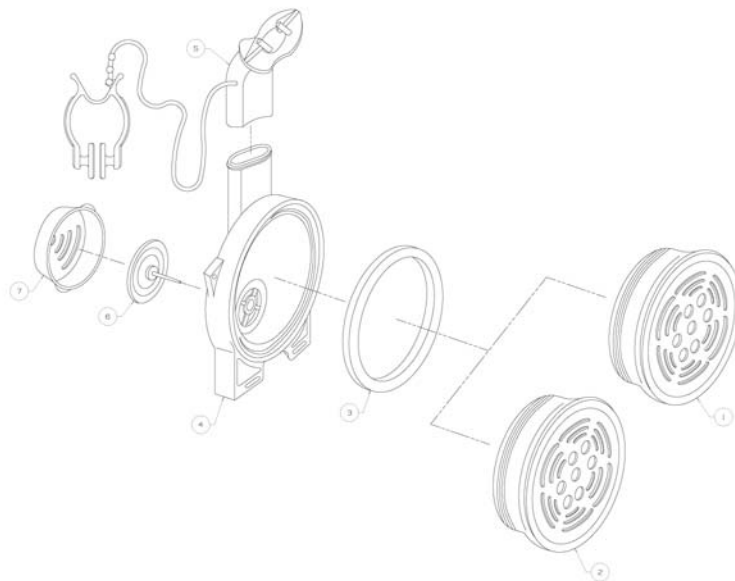

Fig. 2 (Respirator Components and Replacement Parts)
Respirator Components and Replacement Parts* (Refer to Fig. 2)
2. That the nose clip is not damaged and both nose pads are in place. Ensure that the nose clip is in a closed position with nose pads nearly touching (refer to Fig. 2).
Clean Respirator Housing after each use (Refer to Fig. 2 and Respirator Components and Replacement Parts section.)
Mouthpiece and Nose Clip Part Replacement (See Fig. 2 as reference for mouthpiece replacement)
Cartridge Replacement (See Fig. 2 as reference for cartridge replacement)